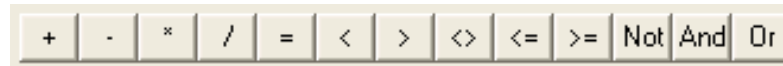

Figure 32 - Operators Buttons
13. The **Operators** buttons (Figure 32) allow you to enter an operation descriptor based on the selected button.